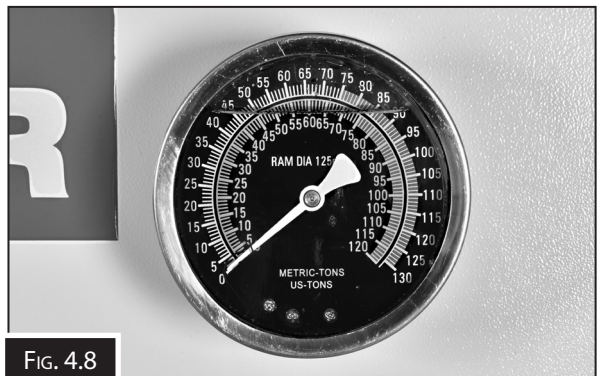

FIG. 4.8
4. When satisfied that the workpiece is correctly aligned and is completely stable in that position, slowly pump the handle or press the pedal so that the ram begins to exert pressure on the work piece. Continue to pump the handle or press the pedal whilst standing to the side. Do NOT stand directly in front of the work, and constantly monitor the process, ensuring the ram and work piece remain completely in line and there is no risk of slipping. Closely watch the PSI gauge and note the pressure applied. (Fig. 4.8)